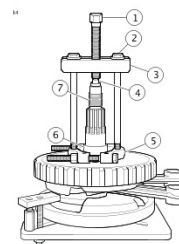

Figure 8. Inner Race From Sprocket Removal
14. See Figure 8. Using the Robinair Heat Gun, uniformly heat the bearing inner race for about 30 seconds using a circular motion.